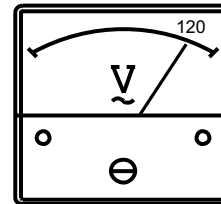

Figure 45. Voltmeter Meter
- The generator's **AC-voltmeter** (Figure 45) will display the generator's output in **VOLTS**.